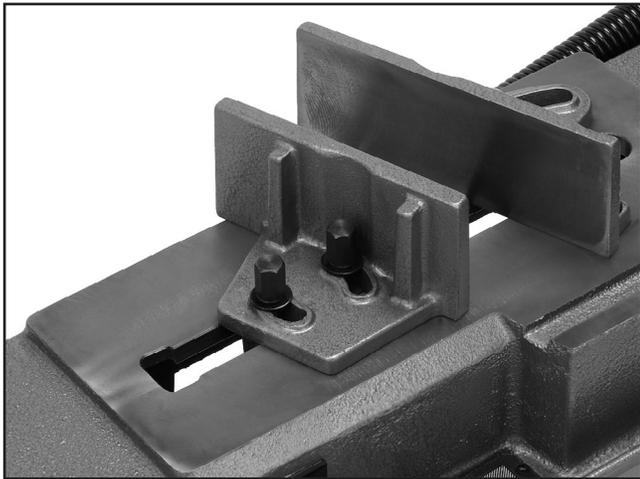

Figure 15. Vise jaw lock-nut.
- Loosen the lock nut in **Figure 15** on the opposite jaw so the jaw can float, and match the angle of the workpiece.